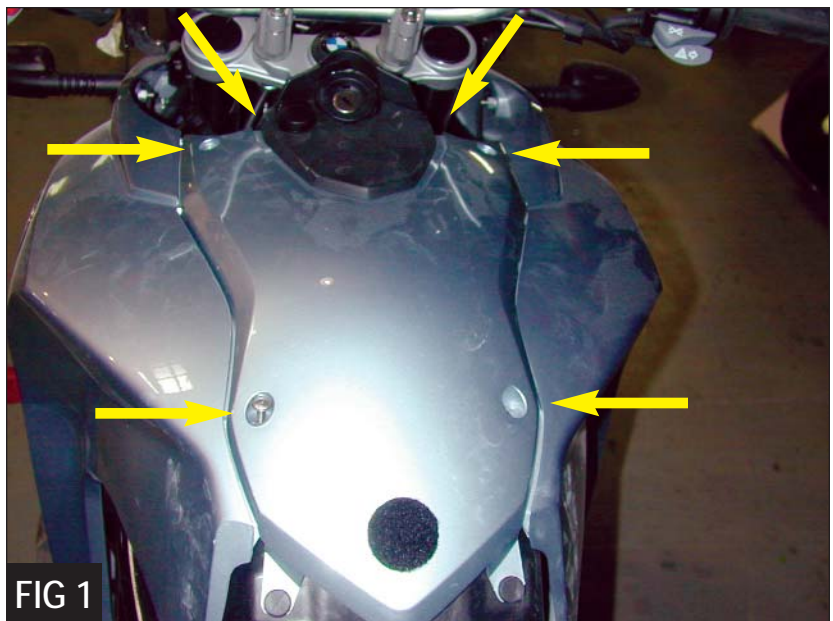

FIG 1
1. Remove the top tank panel to expose the battery (*Figure 1*).